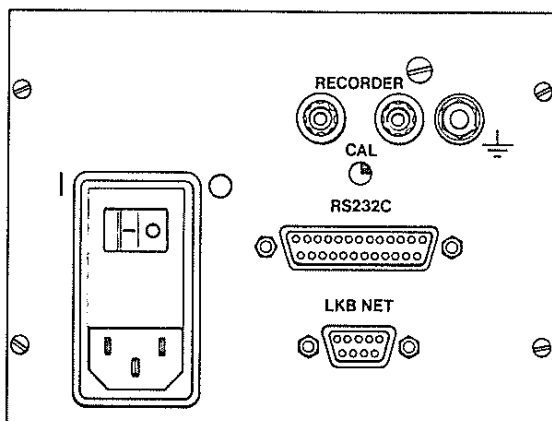

Fig.2.1 Rear panel layout
- b) Check that the fuses supplied are of the correct rating. Two identical fuses need to be loaded into the back of Ultrospec K (see Fig.2.1 - the rear panel), this being done as follows: